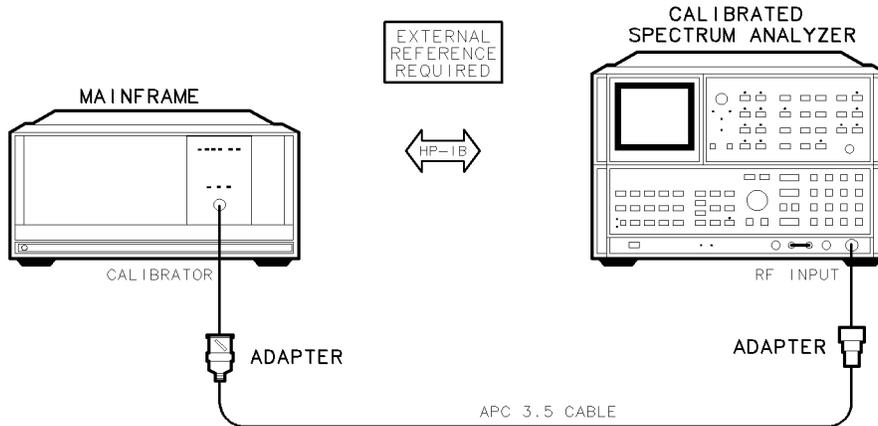

Figure 7-25. Calibrator Harmonics Test Setup
1. Connect the HP 8566B spectrum analyzer’s RF INPUT to the DUT’s CALIBRATOR using the adapters, as shown in Figure 7-25.